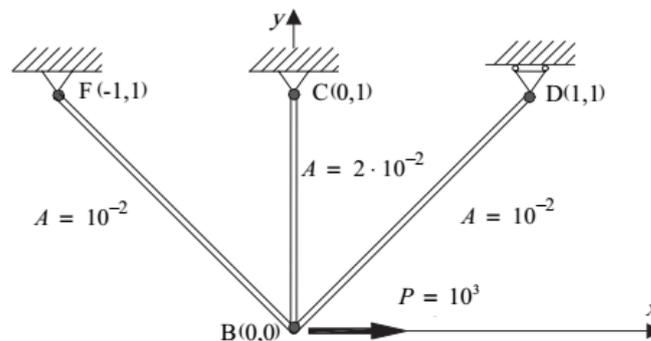

Figure.1
4. Given the three-bar structure subjected to the prescribed load at point D equal to  $10^3$  N as shown in Figure.1. The Young's modulus is  $E = 10^{11}$  N/m2, the cross-sectional area of the bar BC is  $2 \times 10^{-2}$  m2 and that of BD and BF is  $10^{-2}$  m2. Note that the point D is free to move in the x-direction. Coordinates of joints are given in meters. [14]